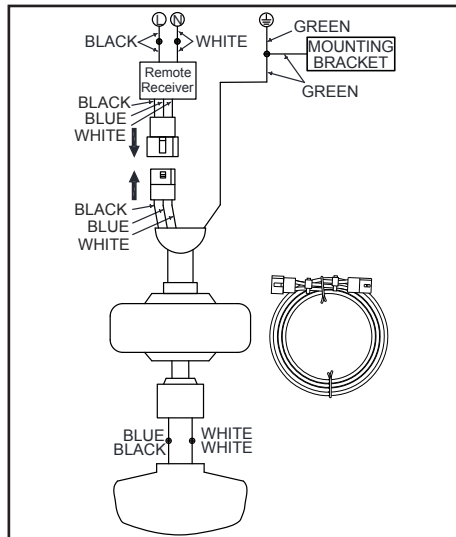

Figure 11
1. If using the 4.5 in. ball/downrod assembly provided, wire the receiver to the fan wires by connecting the molded adaptor plug from this receiver with the molded adaptor of the fan motor assembly together. (Figure 11)